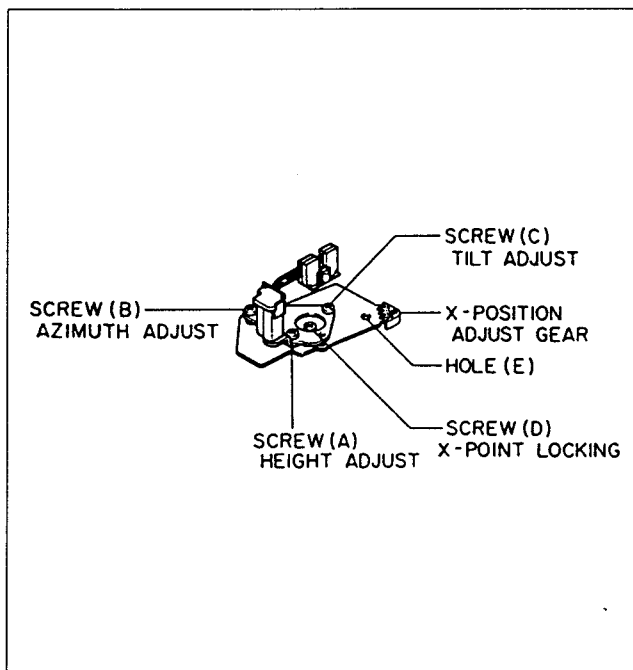

Fig. 4-61 Location of A/C Head Adjustment Screw
3. Adjust screw (B) for maximum audio level (See Figure 4-61).